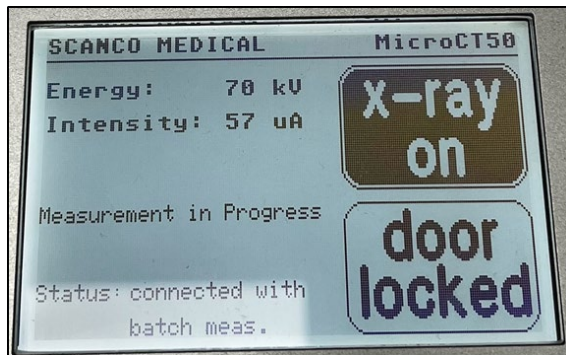

Figure 5: Image of microCT 50 status screen while a scan is in progress.
2. **Before loading any new samples, check if the microCT door is open.** The digital screen on the microCT will say “READY TO SCAN” if the machine is ready. Otherwise, it will appear identical to Figure 5, indicating a scan is in progress, and the door is locked. Please ensure the time you have reserved is correct. ***Do NOT use the key to unlock/lock the door!***